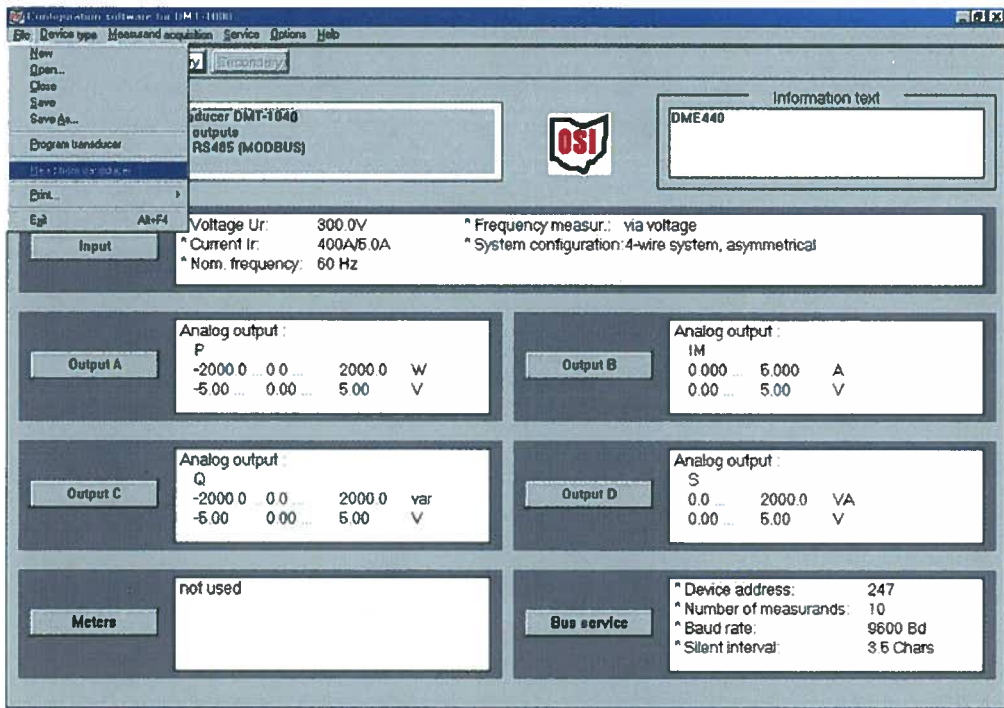

Figure 2
5. Check communication between the computer and the DMT by clicking on File, then Read From Transducer. The software should read the setup of the DMT and display that on the screen. (See Fig. 2)